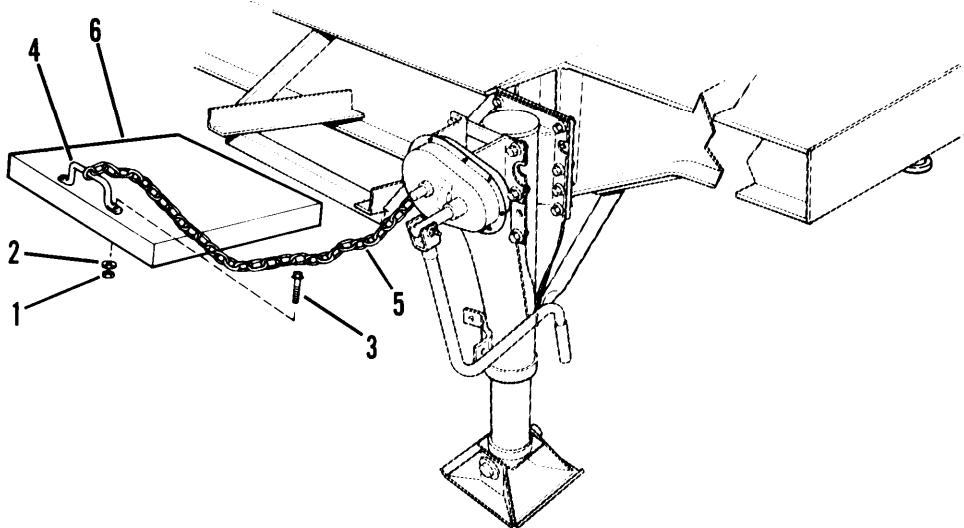

Figure 4-57. Float Pad
- (1) Remove two nuts (1, fig. 4-57), washers (2) and bolts (3) from float pad handle (4).
- (2) Remove handle (4).
(1) Position float pad chain (5, fig. 4-57) on frame according to markings.
(1) Position handle (4, fig. 4-57) on float pad (6).
(2) Secure handle (4) with two bolts (3), washers (2) and nuts (1).
(3) Stow float pad (6).